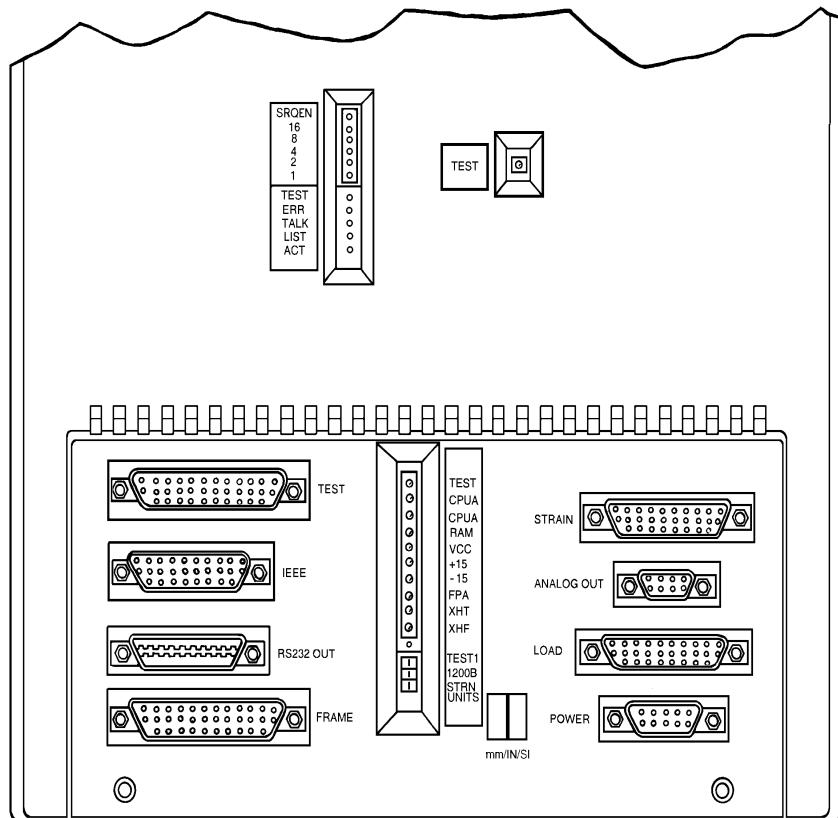

Figure 3-1. Console Rear Panel Connectors
The connector panel for the Series 4400 Control Console (Figure 3-1) is located on the rear of the console unit. The components on this panel are described below. The load frame, load cell, strain channel and recorder cables connect directly to the console at connectors provided for the purpose. All of the connectors are standard D-shell connectors.
- (a) Match the individual cables with their proper connectors on the rear panel of the console (see Figure 3-1).